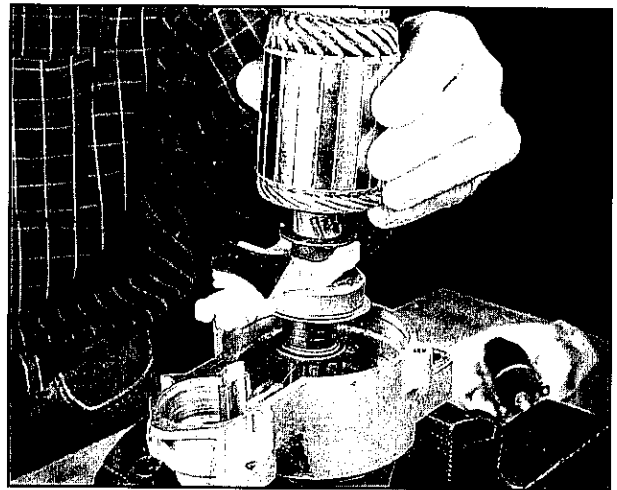

Fig. 33
5. Remove armature and pinion gear with drive lever from drive end cap, **Fig. 33**.